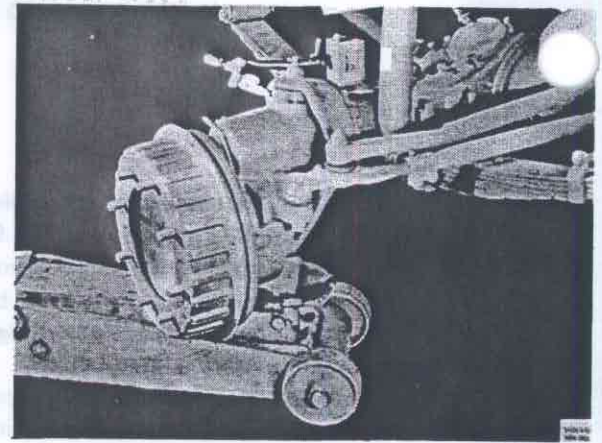

Fig. 63-3. Measuring the clearance
5. Place a jack under the cover, Fig. 63-3. Push up the pin and release it entirely a couple of times. Read off the clearance measured.
6. Unscrew the cover (16).
7. Remove the nut (15), the lower ball shell (14) and the shims (12).